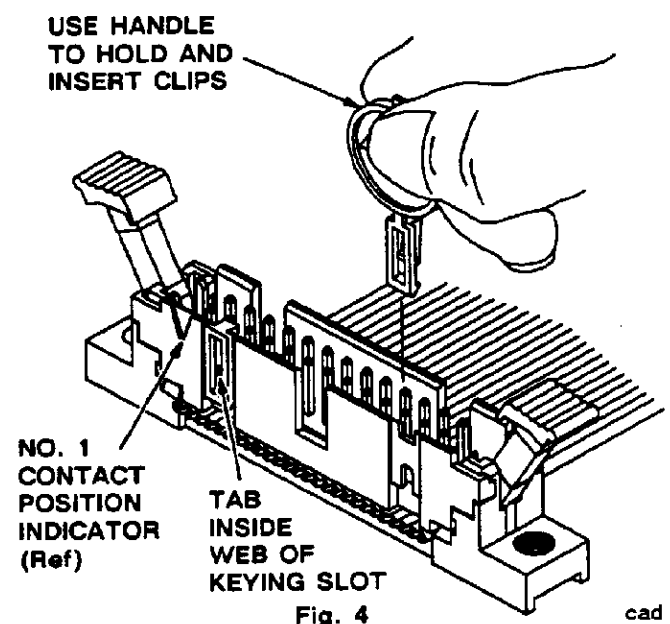

Fig. 4
1. Hold clips by the circular "handle" to which they are attached. Position clips above keying slot of connector as shown in Figure 4.